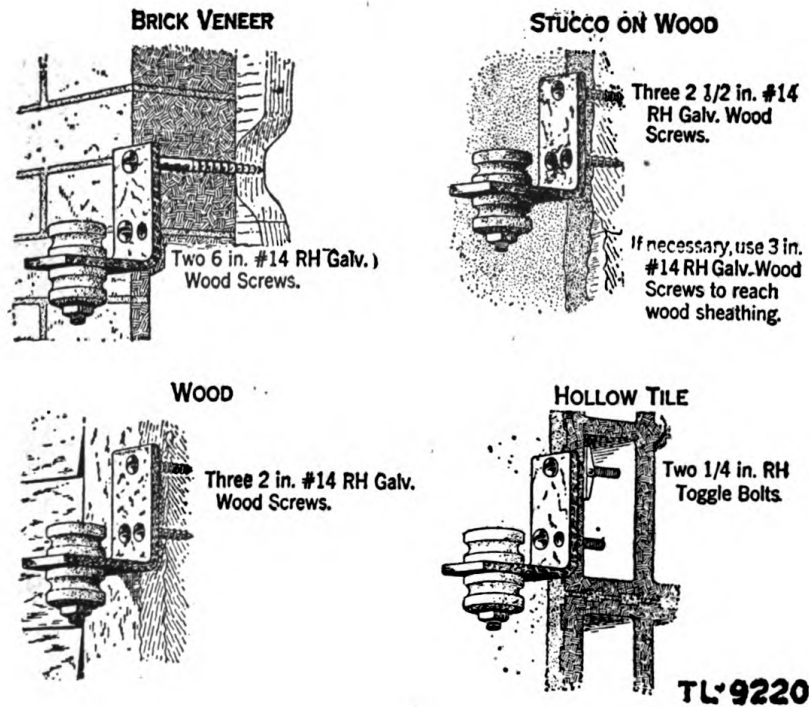

Figure 25. House brackets installed on various surfaces.
l. **INSTALLING HOUSE AND CORNER BRACKETS.** (1) To install house or corner brackets on brick veneer, drill 1/4-inch holes in mortar between bricks in order to pass wood screws through the brick portion. Attach brackets to exposed frame portion on brick-veneer buildings when practicable.
(2) On stucco-finished buildings, attach house bracket to exposed frame portion if practicable. To install house or corner brackets on stucco-finished wall, drill stucco with 1/4-inch, short masonry drill in order to obtain holes to accommodate wood screws.
(3) Various installations of house and corner brackets are shown in figures 25 and 26.